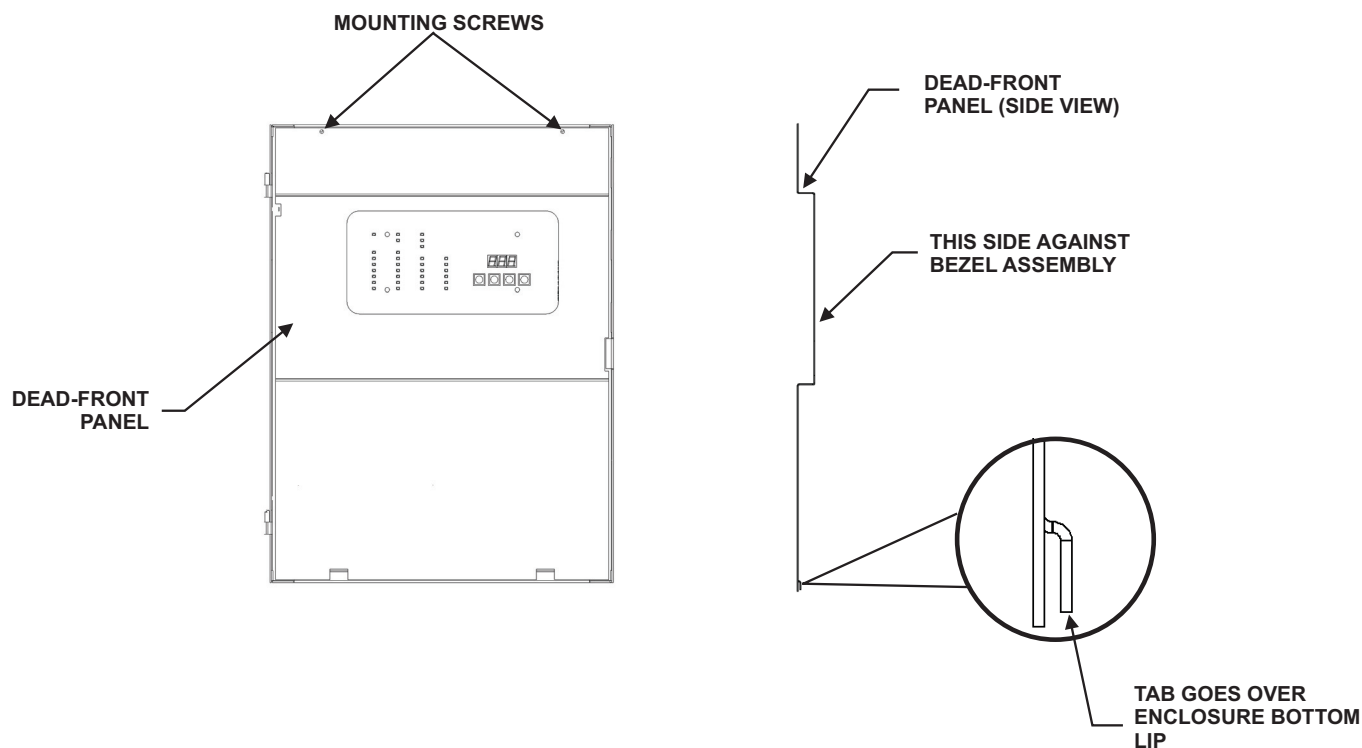

Figure 2-16. Dead-Front Panel Installation
1. The tab on the dead-front panel goes over the bottom enclosure lip (Figure 2-16).